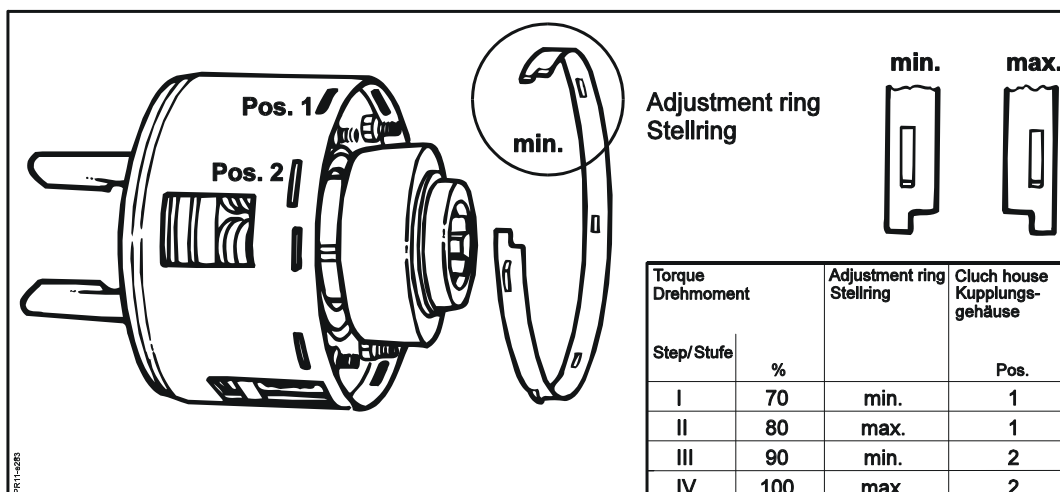

Fig. 5-3
**Fig. 5-3** The torque in the friction clutch has 4 different torque adjustments, which should be chosen as required. This is done by turning the adjustment ring and by choosing between 2 different positions in the clutch housing.
2. The clutch housing has two different sets of slots in the height into which the adjustment ring can be mounted, **pos. 1 and pos. 2**.